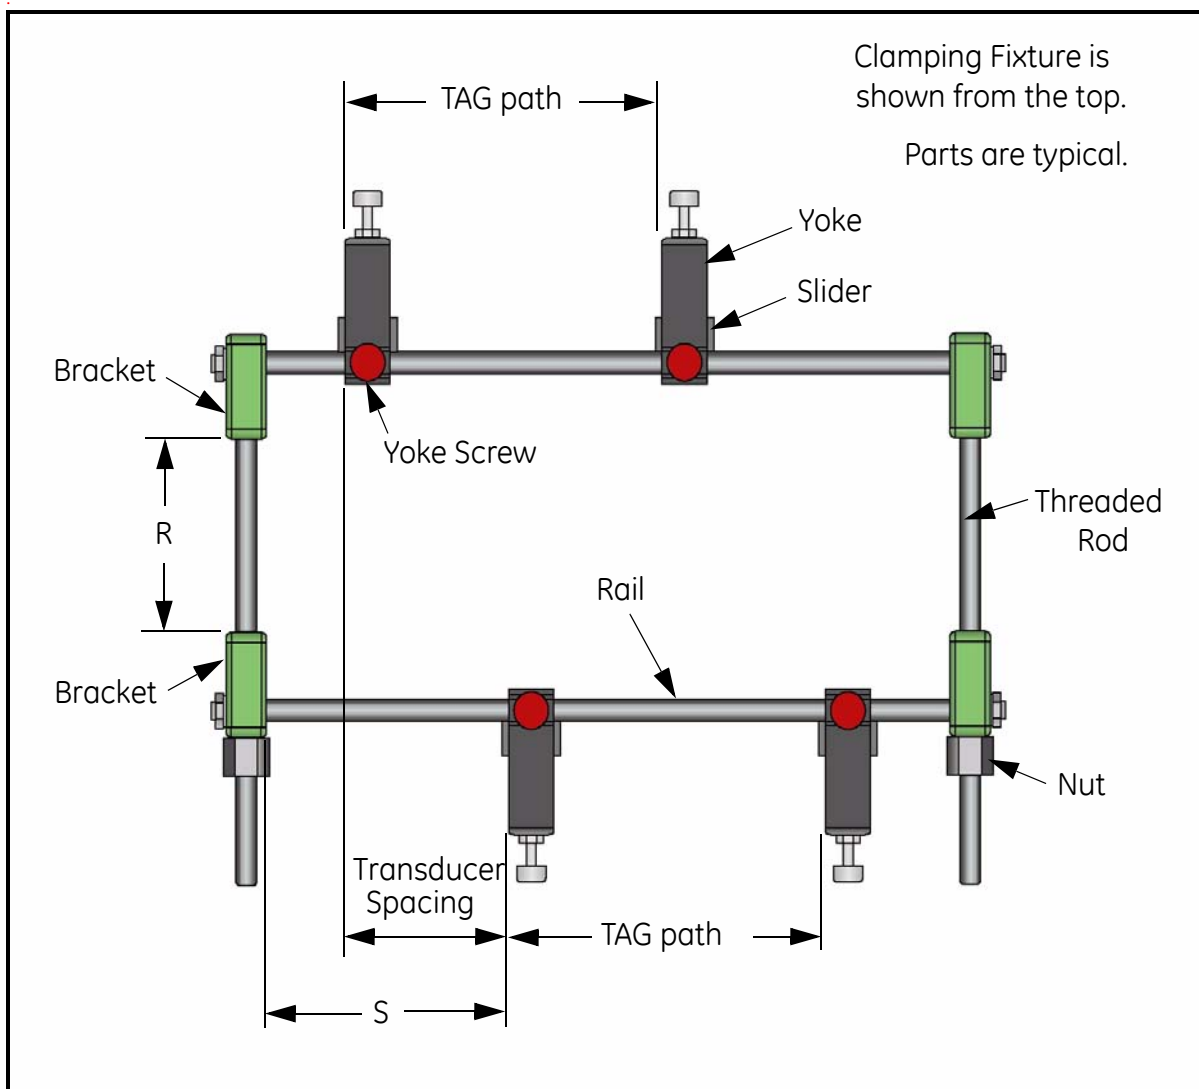

Figure 2-3: CFT-V Clamping Fixture Setup
1. Referring to Figure 2-3 below, set the first yoke at a short distance from the end bracket and tighten the yoke screw.
Refer to Figure 2-3 on page 2-11 and mount the CFT-V clamping fixture on the pipe.
3. Using a caliper, measure the four spacings (represented by R in Figure 2-3 on page 2-11) between the brackets and make sure that they are the same.